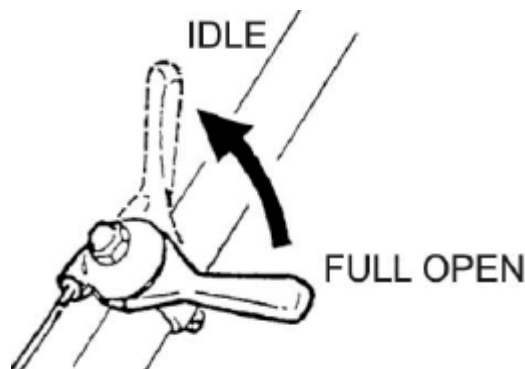
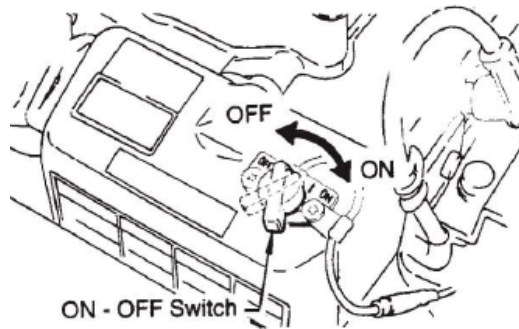

Figure 10 Throttle Lever (IDLE)
Figure 6 On Off Switch
1. Move throttle lever quickly from the **FULL OPEN** to **IDLE** position (Figure 10) and run the engine for three minutes at low speed. After the engine cools, turn the engine start/stop switch to the “**STOP**” position (Figure 6) until engine comes to a complete stop.
2. Set the engine ON/OFF switch (Figure 6) to the “ON” position (start).